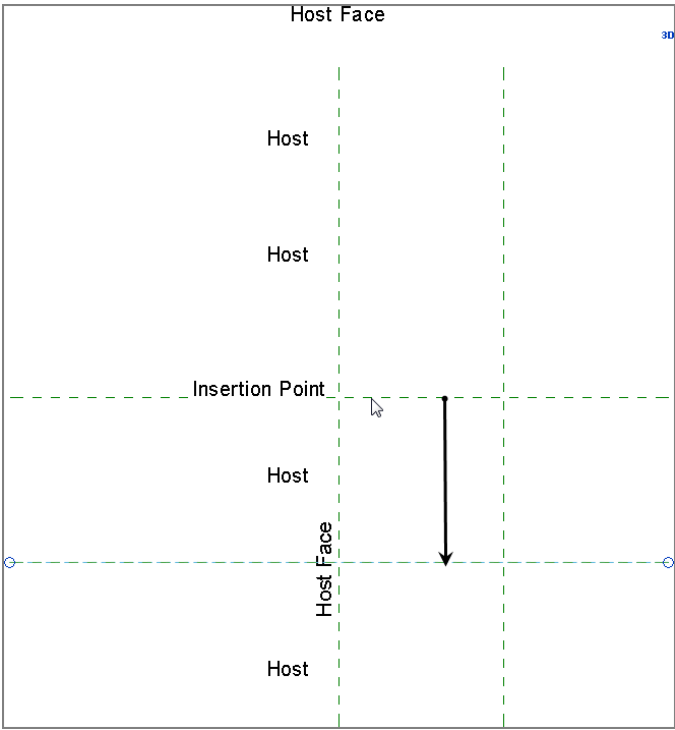

FIGURE 17.3: Adding a second horizontal reference plane downward
5. With the Reference Plane command still running, pick the horizontal reference plane, and offset it down using the same offset increment of 1'-0" (300mm). Your family should resemble Figure 17.3.